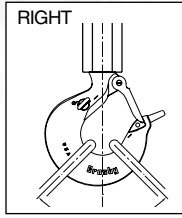

Figure 5
- When placing two (2) sling legs in hook, make sure the angle from the vertical to the outermost leg is not greater than 45 degrees, and the included angle between the legs does not exceed 90 degrees (See Figure 5 on page 156).